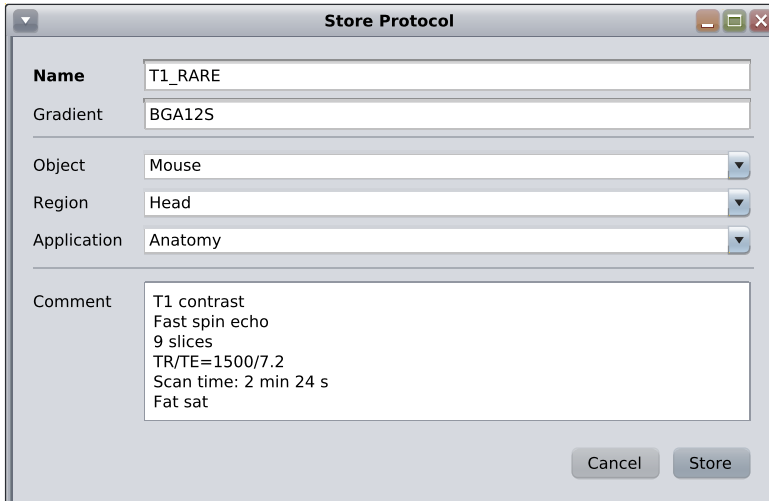

Figure 1.30: Dialog Store Protocol
- A dialog (see [Figure 1.30 \[p 52\]](#)) is opened allowing the operator to enter a protocol name and select/enter an object, region and application under which the protocol should be stored. When **Store** is clicked, the dialog is closed and the protocol is stored.